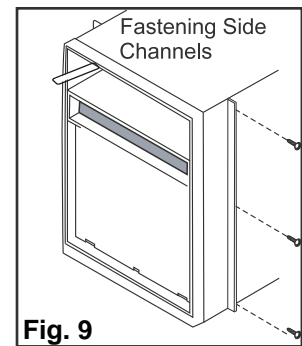

Fig. 9
11. Fasten side channels. (Fig. 9)
11. Cut side channel seal. (Fig. 9)